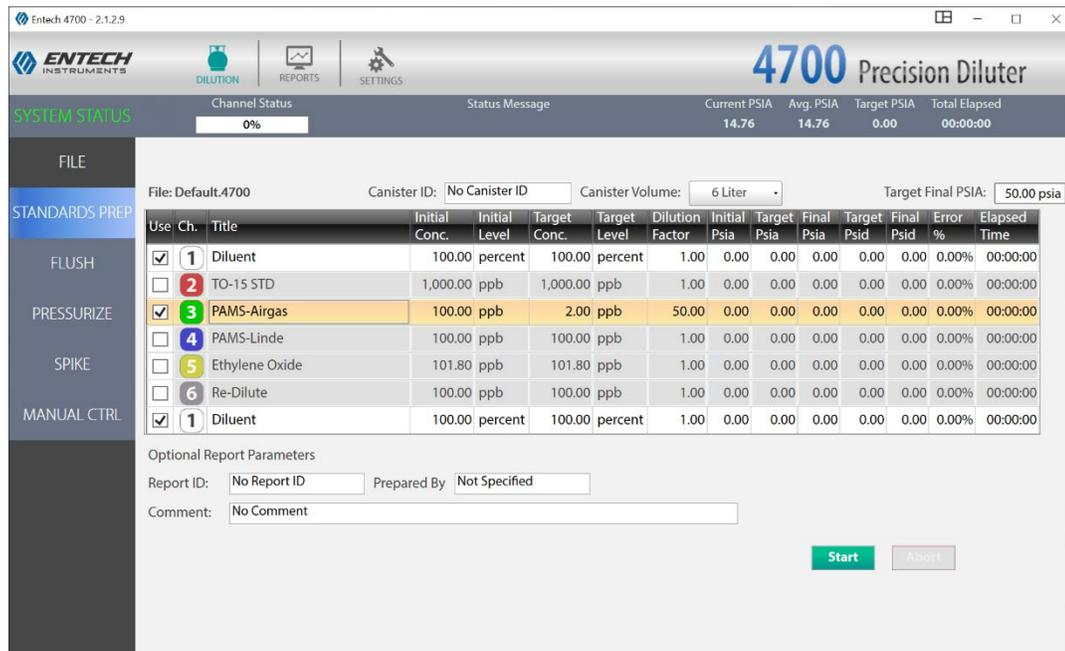

Figure 9: Entech 4700 Precision Diluter Software 2 ppb PAMS Preparation Example
- 5 Click file and select “Save Method.” Use a name that details the concentration of the standard created and the source from which it came. E.g. The standard in Figure 9 could be saved as 2ppb_PAMS-Airgas.